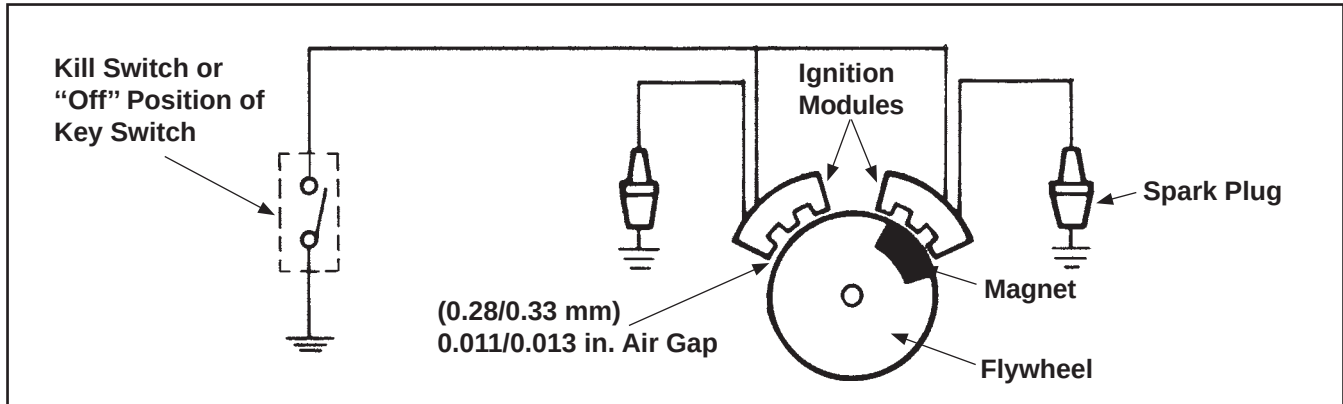

Figure 7-4. Capacitive Discharge Fixed Timing Ignition System.
- Two electronic capacitive-discharge ignition modules which mount on the engine crankcase (Figure 7-4).